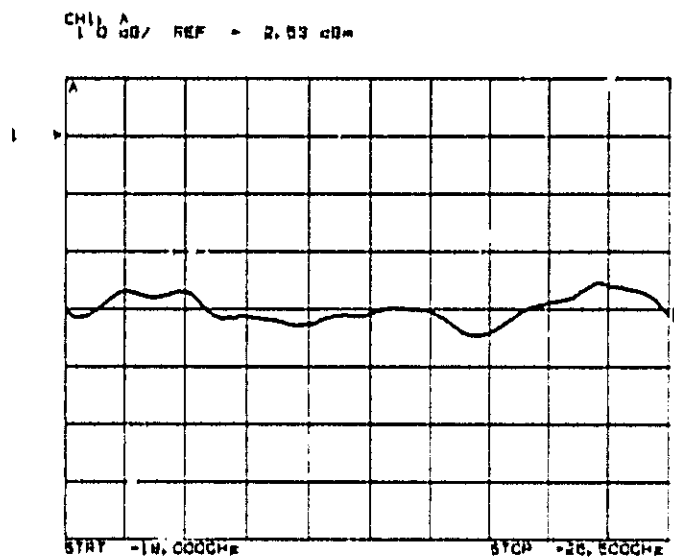

Figure 5-36g. Trace After Main Slope Adjustment
8. Adjust A5R48 (SLP) for the flattest scalar network analyzer display (see Figure 5-36g).